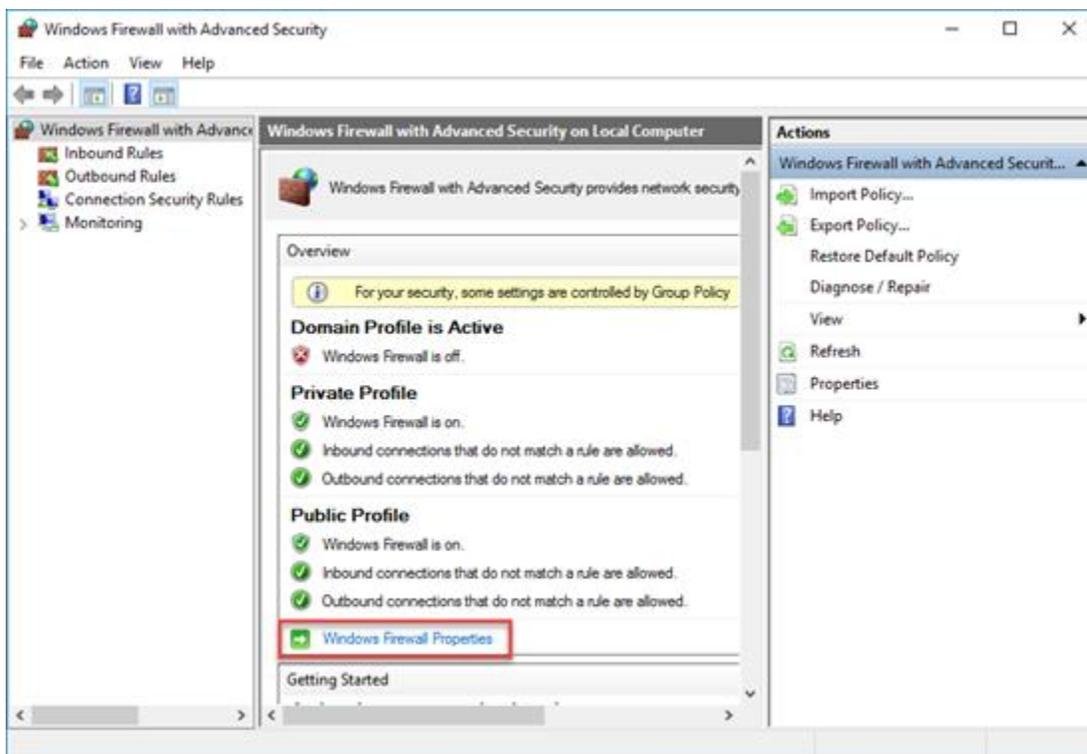

Figure 123: Windows Firewall with Advanced Security
2. Click **Windows Defender Firewall Properties** to open the **Windows Defender Firewall with Advanced Security** properties pane (Figure 123).